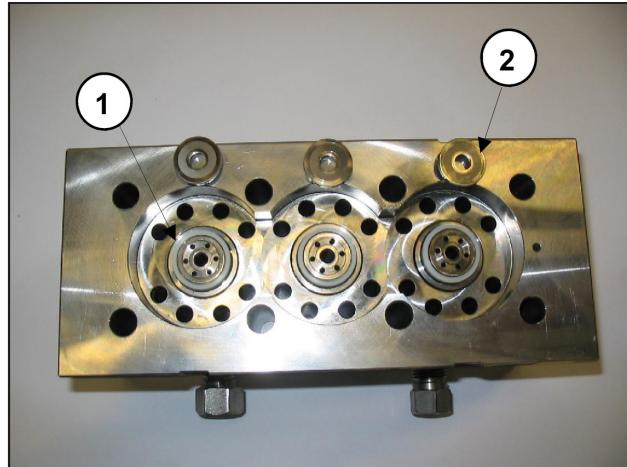

Fig. 23
! When removing the liners, take care not to lose the valve seats ① and the flat valves ② as shown in Fig. 23 which, being only laid down, could fall.